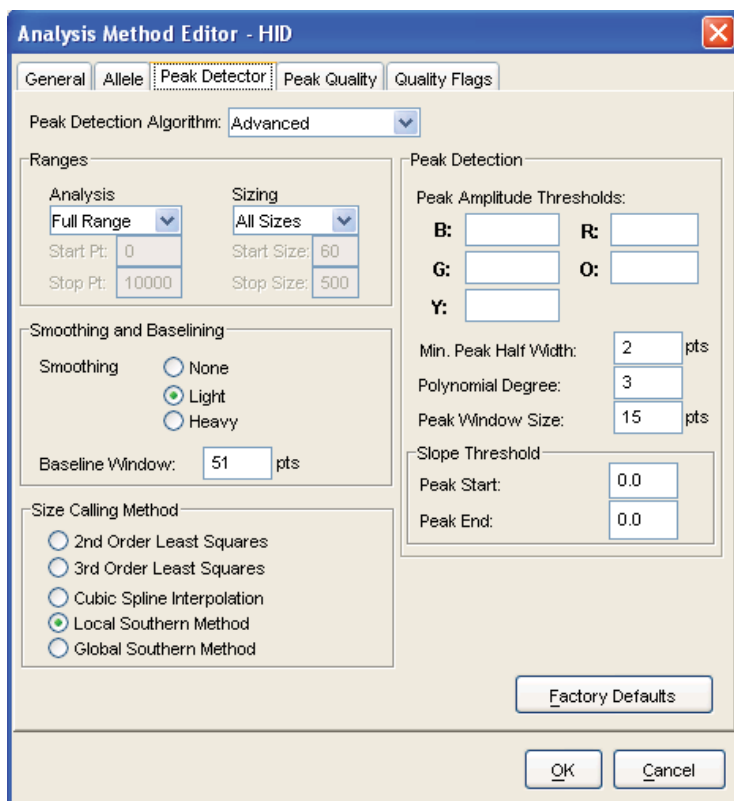

Figure 18. The GeneMapper® *ID* Software 'Peak Detector' tab.
9. Select the 'Peak Detector' tab (Figure 18). You will need to optimize these settings. In-house validation should be performed.
10. Select the ‘Peak Detector’ tab (Figure 18). You will need to optimize these settings. In-house validation should be performed.